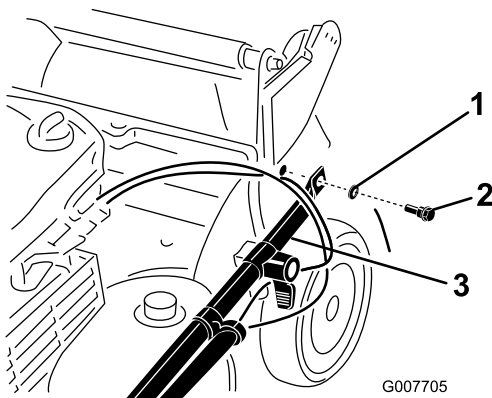

Figure 3
2. Attach the handle ends to the mower housing with 2 washers and 2 handle bolts (Figure 3), **but do not tighten the handle bolts.**